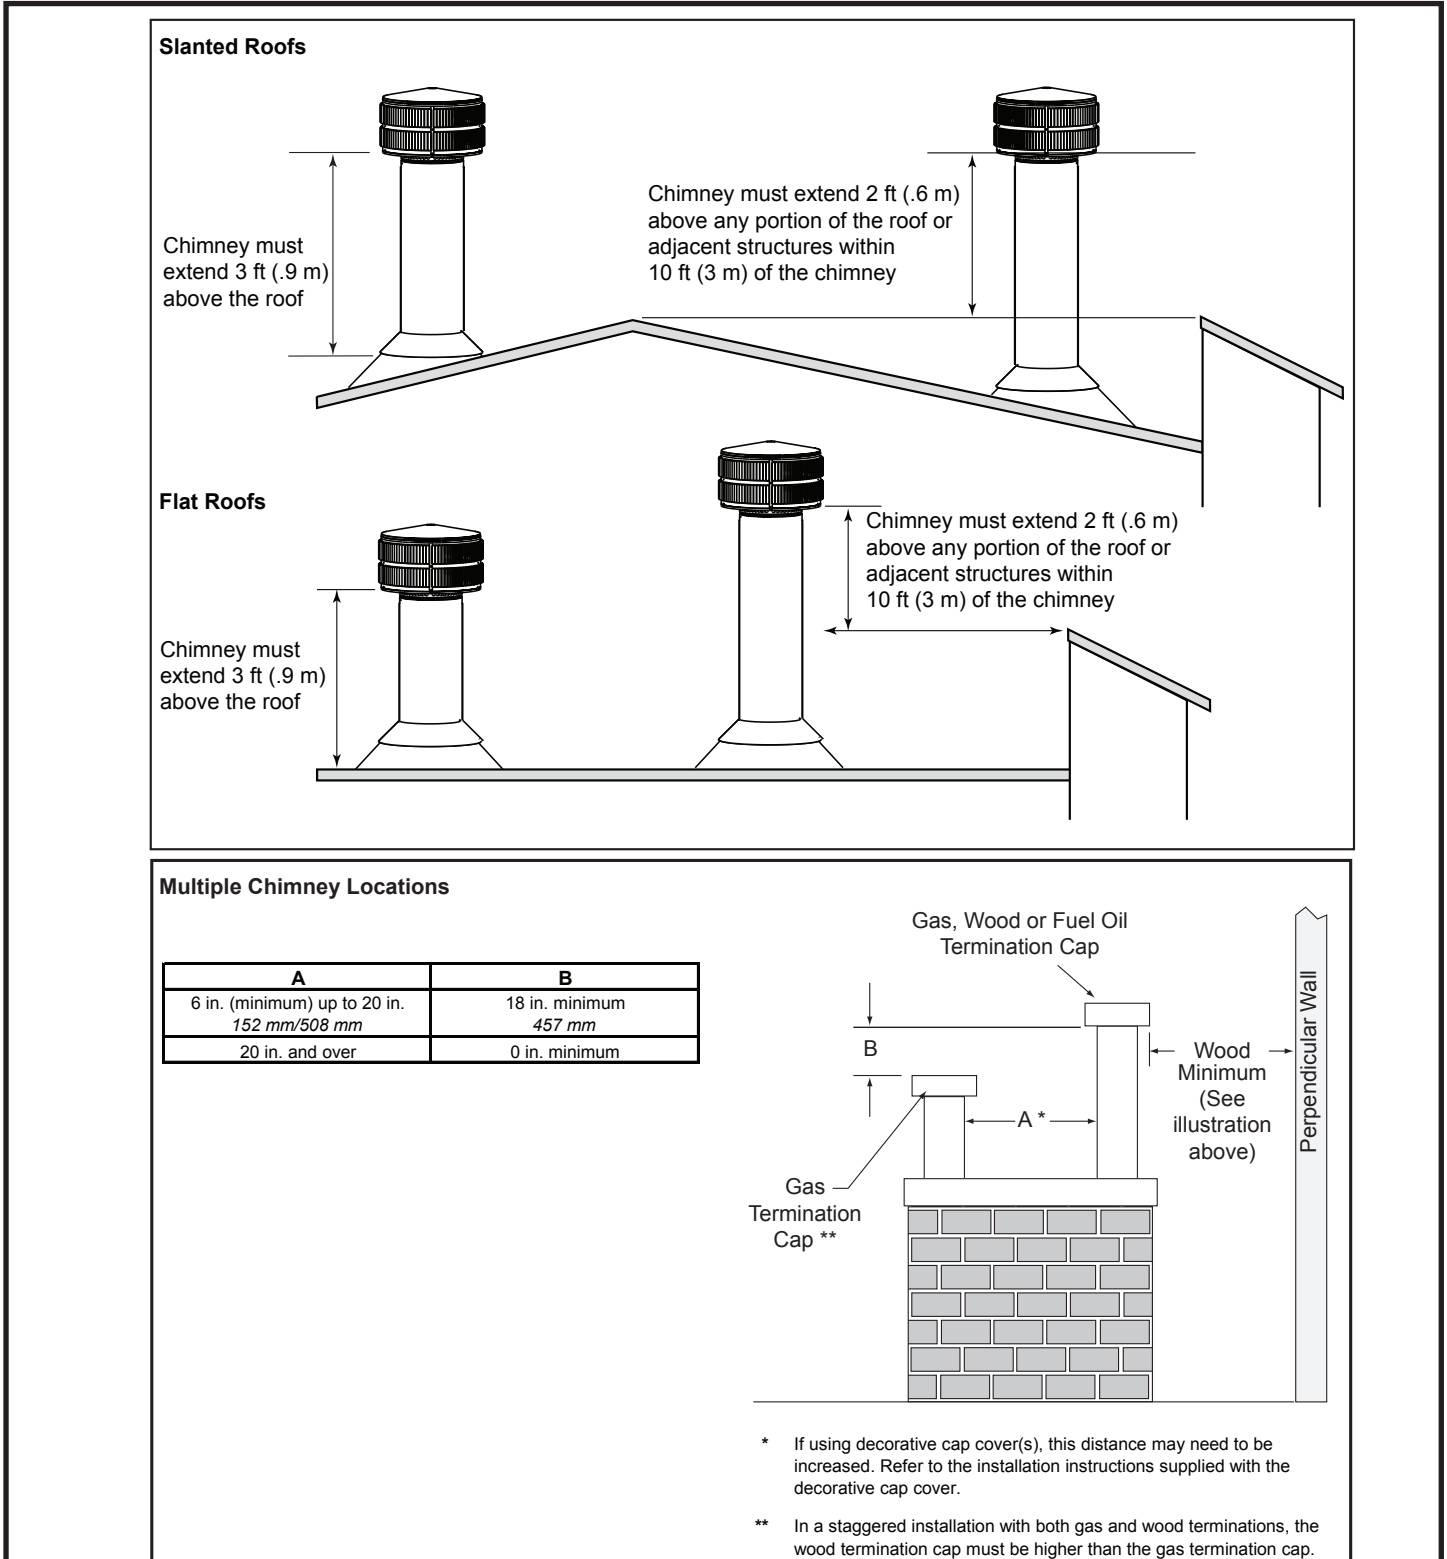

Figure 4.19 Multiple Chimney Locations
- The bottom of the termination cap must be at least 3 ft (.91 m) above roof AND at least 2 ft (.61 m) above any portion of roof within 10 ft (3.05 m) as shown in Figure 4.19.
- See Figure 4.19 for distance required between caps.